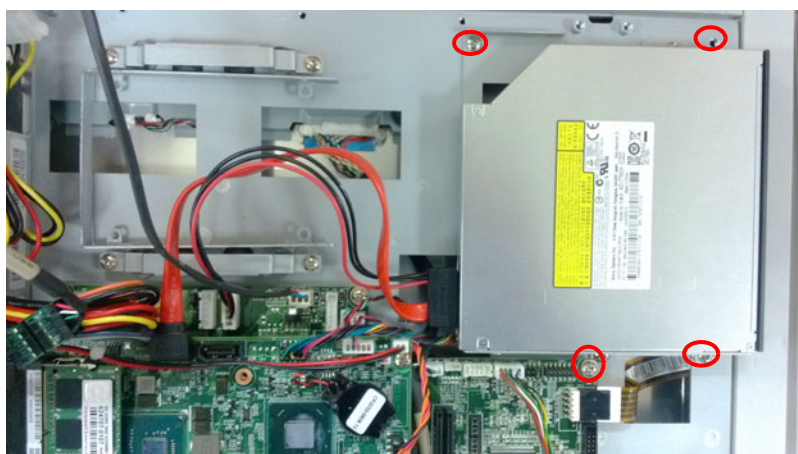

Figure 2.13
2. Take out ODD module, fix it onto the iron bracket, and connect the ODD cable to the corresponding interface. (See Fig 2.13)